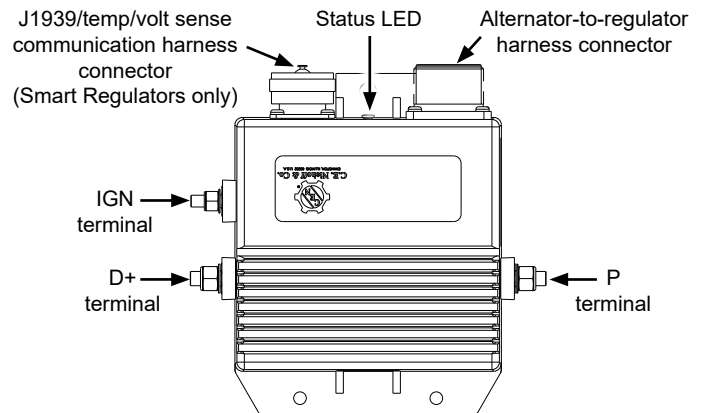

Figure 10: Regulator Connections
3. Plug alternator-to-regulator into receptacle on regulator. See Figure 10 for receptacle location.
- Regulator **D+ terminal** (if required) provides DC system battery voltage to vehicle (5A maximum) for charge indicator lamp, relay, or multiplex while alternator is producing output. Torque terminal hardware to 4.5 Nm/40 lb. in. See Figure 10.
- Regulator **P/AC/R terminal** (if required) taps AC voltage from alternator, typically half the charge voltage (3A maximum). P/AC/R terminal provides alternator RPM frequency at 10:1 ratio for use with tachometer. Torque terminal hardware to 4.5 Nm/40 lb. in. See Figure 10.
5. If using a J1939/temperature/voltage sense harness, plug harness into J1939 receptacle on regulator. See Figure 10 for receptacle location. Refer to installation instructions included with harness for more information. Harness sold separately².